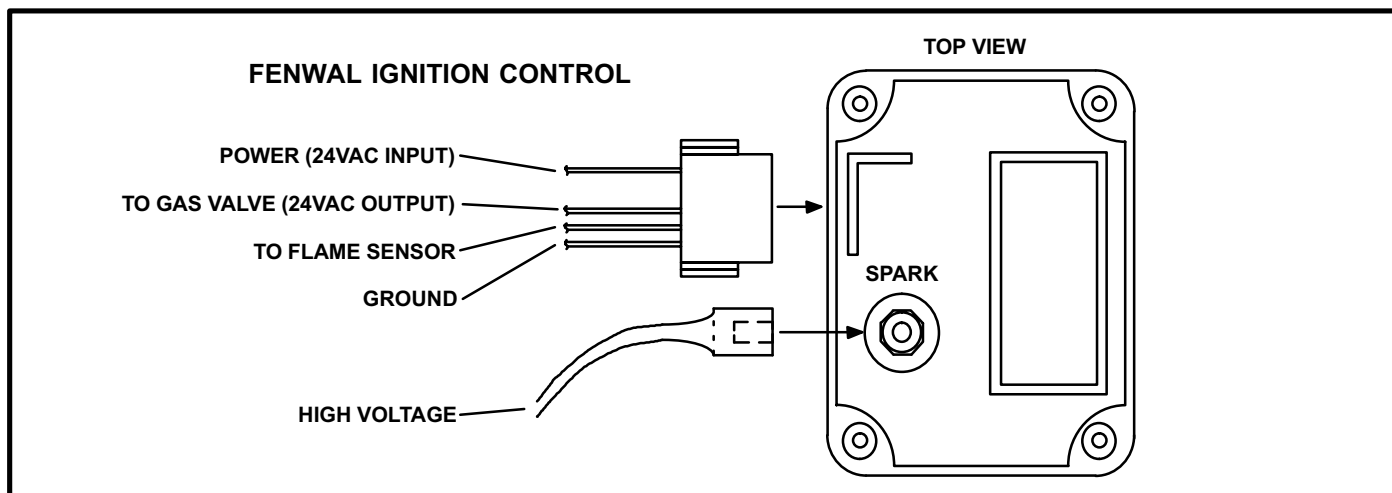

FIGURE 18
- b- The Fenwal control is illustrated in figure 18. The four-wire harness, plugged directly into a jack on the side of the control, is used to connect the control to the unit. Each of the four jack terminals is identified by function. The spark electrode wire connects to the spark plug-type connector on top of the control.